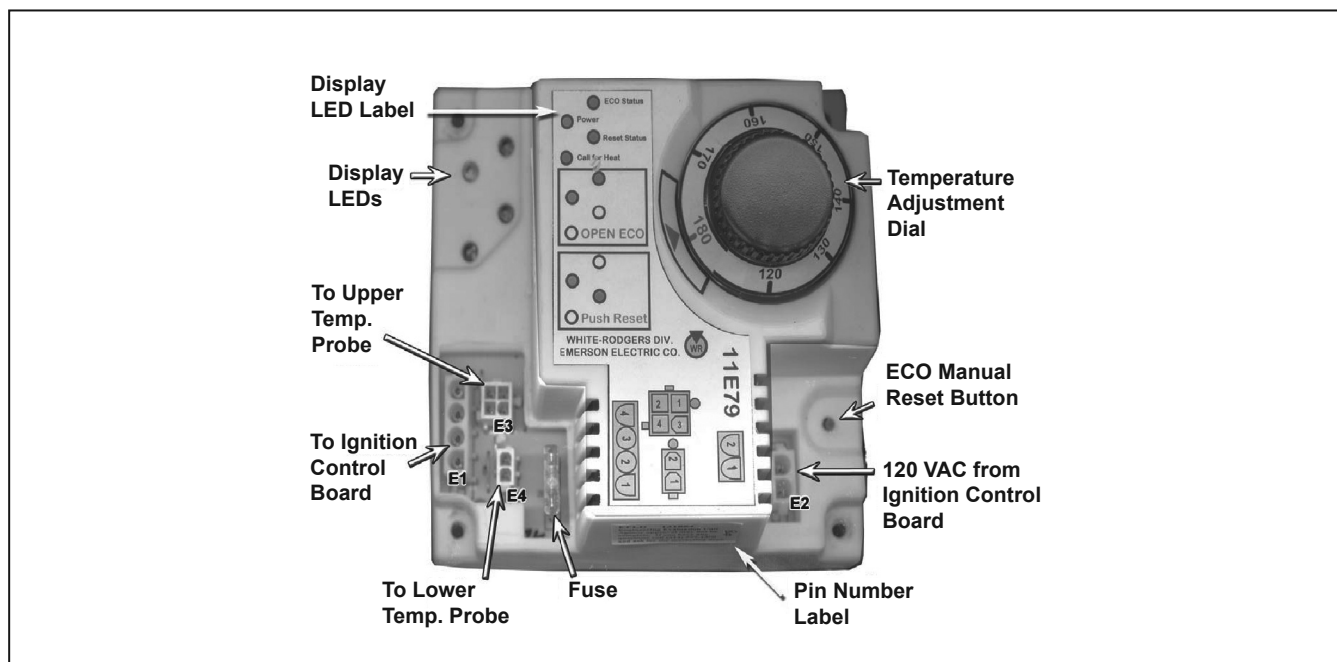

Figure 17
ECO cutout (Energy Cut Off). Tank temperature has risen above 203°F and caused lockout. ECO status LED on integrated control will also be illuminated. See Figure 17.
- 2 Cool tank to below 120°F to reset. ECO reset status LED will illuminate on the integrated control when the control can be reset. Push reset button on integrated control. See Figure 17.
Tank has cooled below 120° F. Preceded by "ECO Open" indication.	<ul style="list-style-type: none"> • Push the manual reset button. Refer to Figure 17. • Troubleshoot for the reason that the ECO opened.